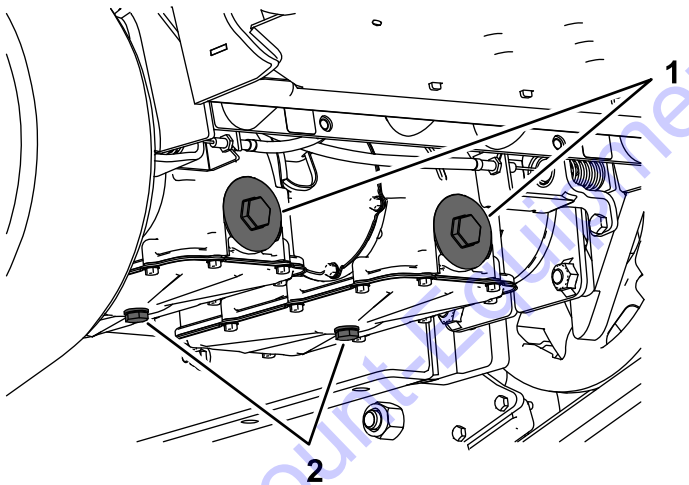

Figure 52
1. Rear bolts (5)
3. Side bolts (4)
5. Locate the drain plug in the bottom of each transmission, then place a drain pan under the plugs (Figure 52).
7. Remove the hydraulic-filter cap and hydraulic filter from each transmission (Figure 52).